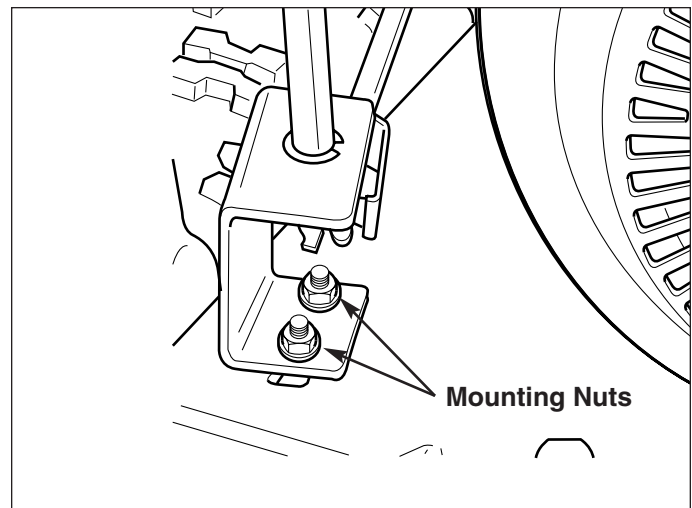

Figure 21. Chute Direction Gear Adjustments
1. Loosen the gear bracket mounting nuts (Figure 21).